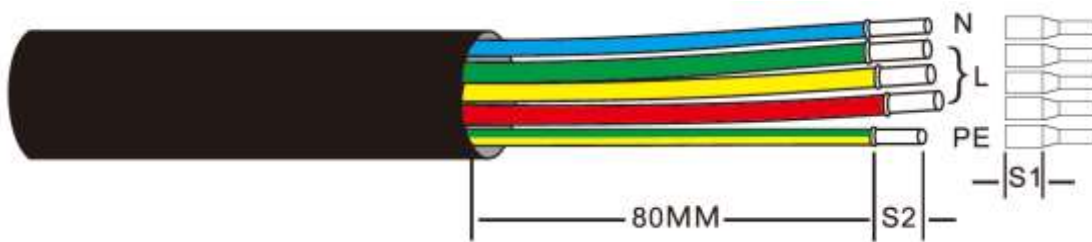

Figure 7.15.1 Strip AC cable
- 1) Strip the end of AC cable insulating jacket about 80mm then strip the end of each wire. (as shown in figure 7.15.1)